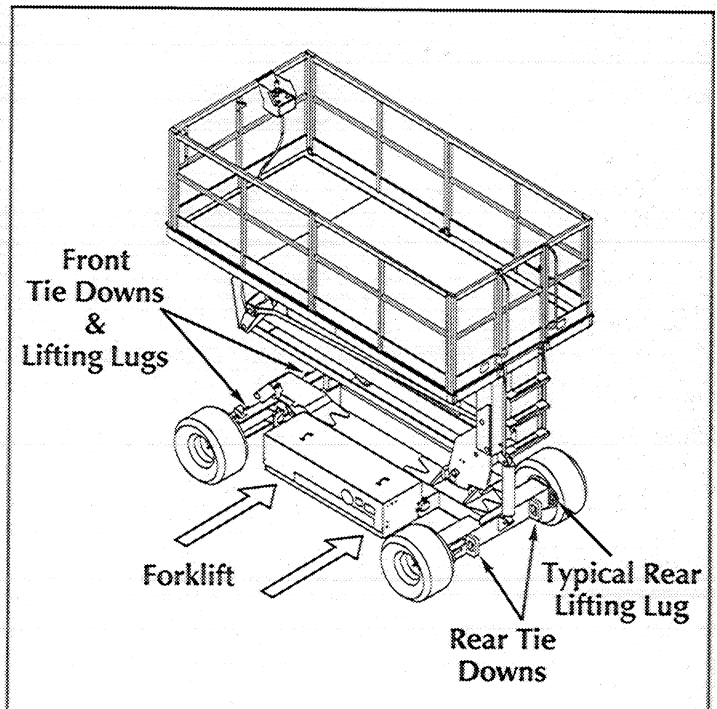

Figure 2-3: Transporting Work Platform
Forklift from the side of the platform by lifting under the modules (Figure 2-3).
2. Secure the work platform to the transport vehicle with chains or straps of adequate load capacity attached to the chassis tie down lugs (Figure 2-3).